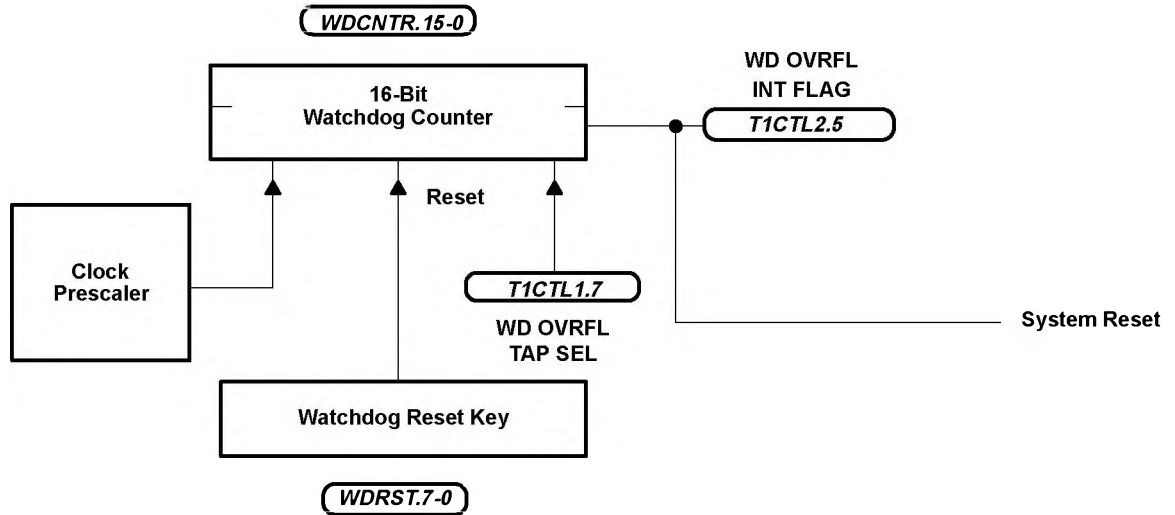

Figure 10. Hard Watchdog
- Hard watchdog configuration (see Figure 10) for mask-ROM devices only: